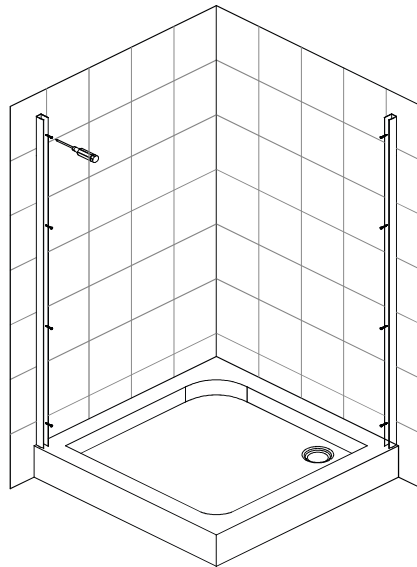
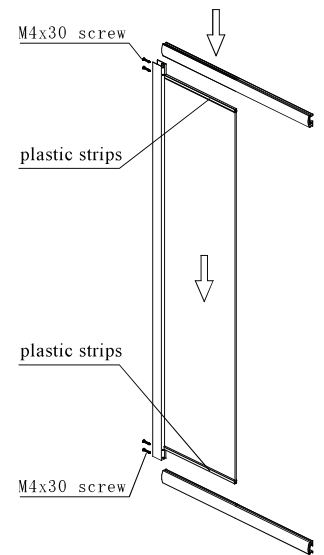

Fig. 3
Fig. 4
As Fig. 3 Use the M4X30 screws (4) to connect the rail (2) and fixed glass door (5). As Fig. 4